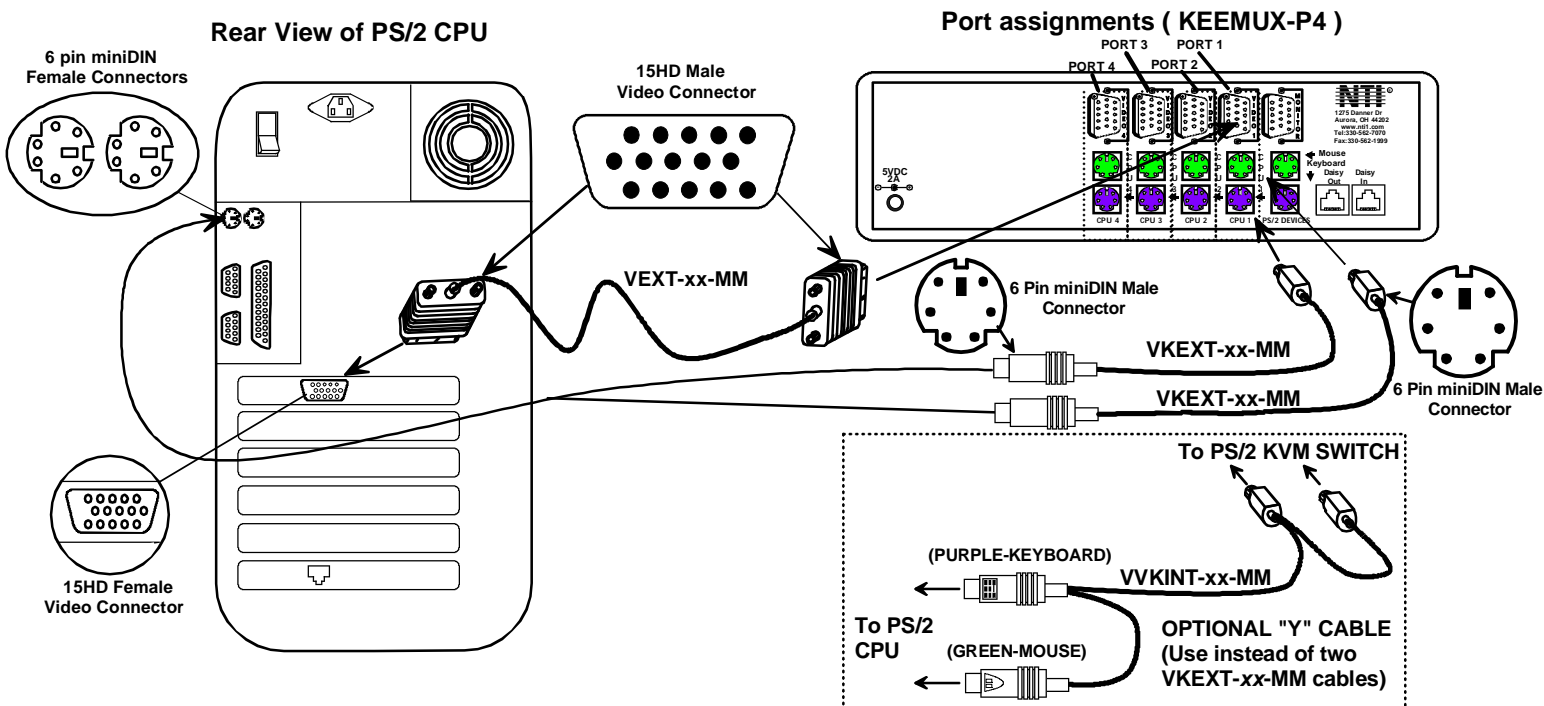

Figure 4- Connect a CPU to the KEEMUX
- Connect each CPU to the keyboard, monitor and mouse ports using VEXT-xx-MM for the monitor and VKEXT-xx-MM (2) for the mouse and keyboard- REQUIRED (not supplied). See Fig. 4.